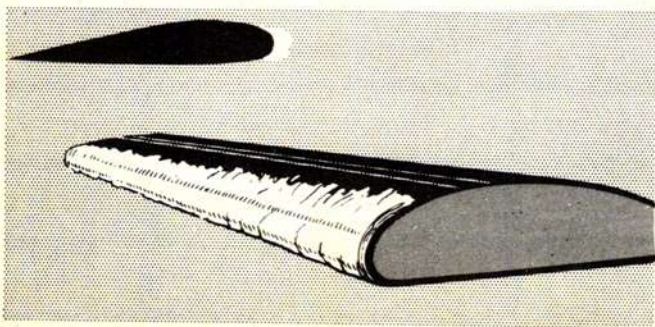

Figure 4-3-2. Clear ice on an airfoil.
**Clear ice.** Clear ice (fig 4-3-2) is translucent and smooth in appearance. This type of ice tends to conform to the airfoil of the wing and tail surfaces. It forms more rapidly, is more difficult to detect, and is much stronger and harder than rime ice. It is easier to pick up and harder to get rid of, and is, therefore, a greater hazard.